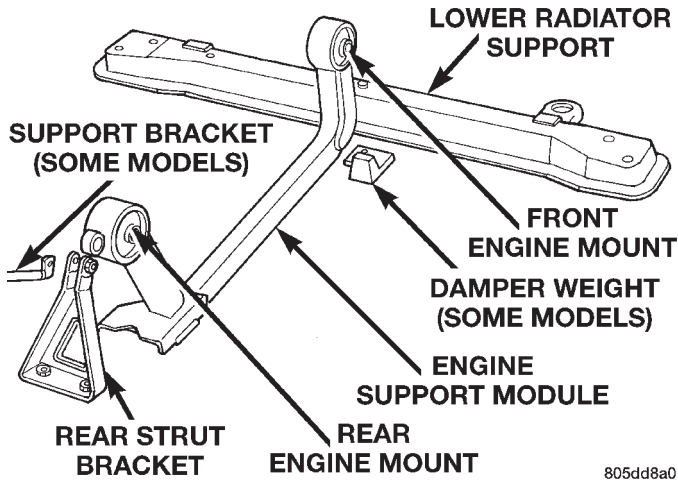

Fig. 17 Engine Support Module
(1) Raise vehicle on hoist.
(2) Remove thru bolt at rear mount and remove bolts attaching module to crossmember.
(3) Remove upper attaching bolt from rear support strut bracket (Fig. 17).
(4) Remove front attaching bolts from support module to lower radiator support.
(5) Support cooling module.
(6) Remove lower radiator support bolts, and remove support.
(7) Remove thru bolt at front mount and remove support module.